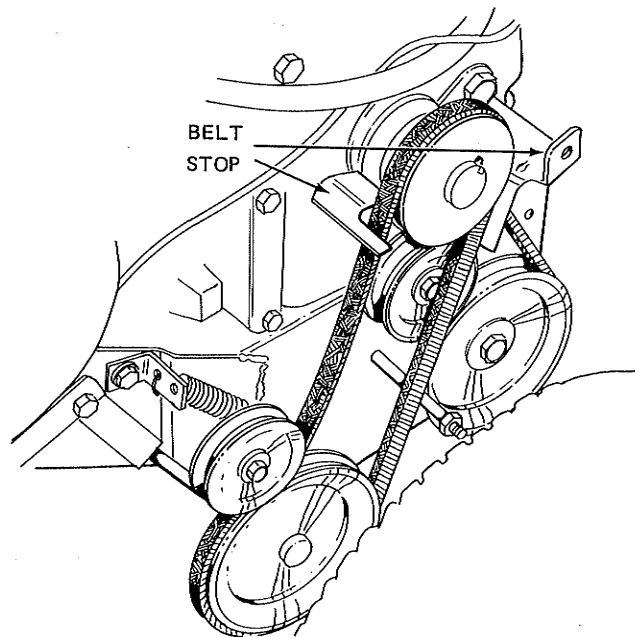

FIGURE 20
BELT STOP: Set the belt stop fingers by bending so there is about 1/16 in. clearance between stop and belt when the clutch is engaged. The belt stop can be repositioned slightly if necessary by loosening the mounting bolt. (Figure 20).
3. Pull out the front mounting pin spring clip and knock out the pins. (Figure 20) Proceed with care - when the pins are removed, the mower will be free to drop to ground.